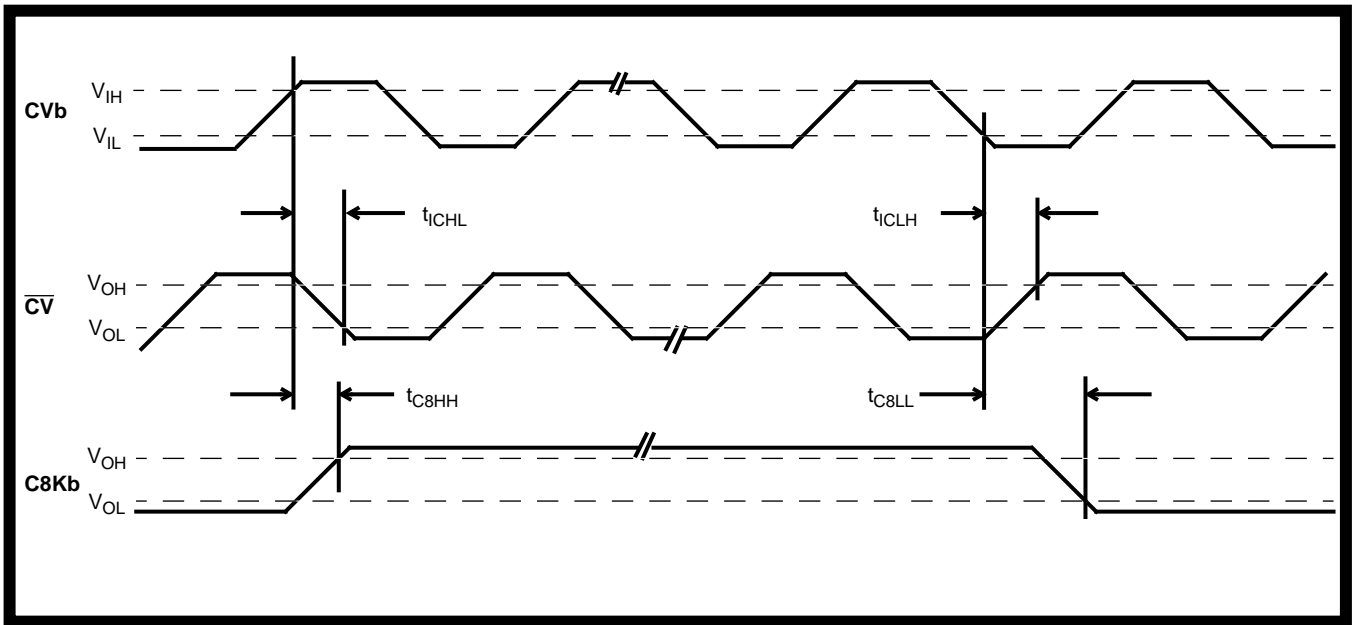

Figure 15 - DPLL #1 in DIVIDE Mode
**AC Electrical Characteristics**†- Voltages are with respect to ground (VSS) unless otherwise stated. (Refer to Figure 15)